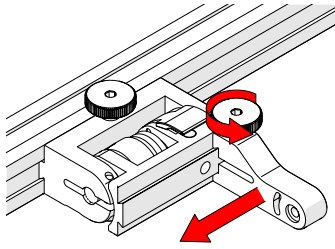

Fig. 134 - Position swing arm
5. Loosen the swing arm knob and slide the swing arm to the opposite end of the probe holder bracket (Fig. 134) or preferred position. Tighten swing arm knob.